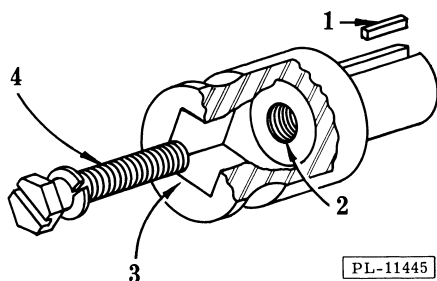

Fig. 8
The attachment drive is protected by a brass key (1, Fig. 8) that will shear if the load becomes excessive. To replace a sheared key it is only necessary to remove the square-drive sleeve (3, Fig. 8). The sleeve can be taken out through the attachment socket. The screw (4, Fig. 8) that holds the sleeve in has a left-hand thread; turn it clockwise to remove.
If the sleeve sticks and does not come out easily, insert a standard $3/8''$ -16 screw into the right-hand threads at (2, Fig. 8). The screw should be long enough to reach out where it can be grasped and used as a puller.